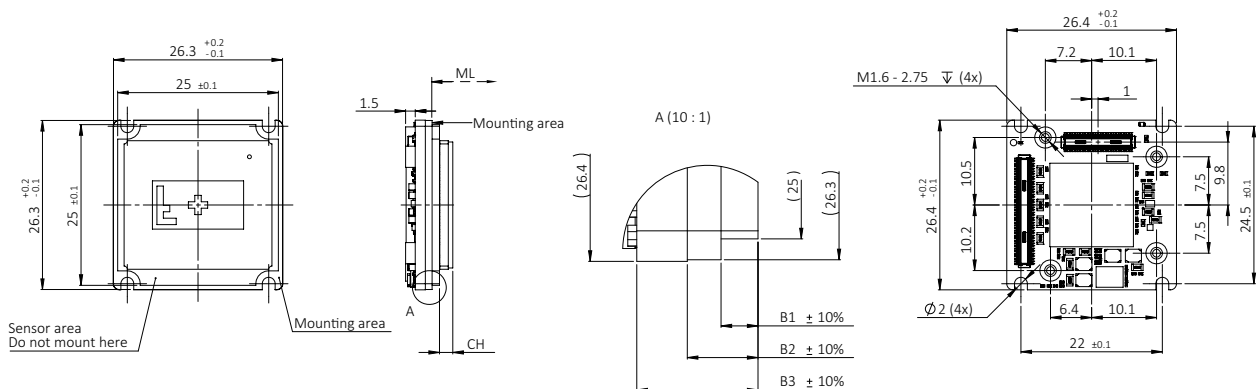

Figure 81: Bare Board (Alvium Flex) dimensions
Dimensions that are common between different models are shown in Figure 81. Model specific dimensions are listed in Table 100. **Mechanical length** (ML) defines the mechanical distance from the mounting area to the lens mount front flange, without optical filter. **Components height** (CH) relates to the electronic components with maximum height, in some cases the sensor.